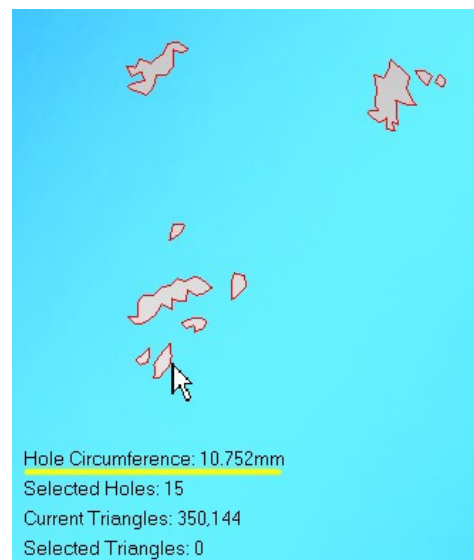

Figure 94
- Hover the cursor over the hole shown in **Figure 94** and **LMB click** the boundary.